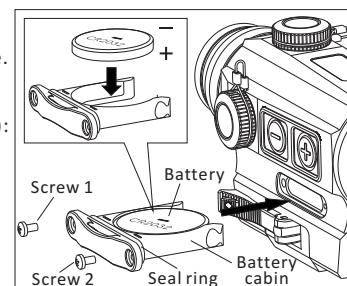

Fig 2-2
2) Battery installation (Fig 2-2):